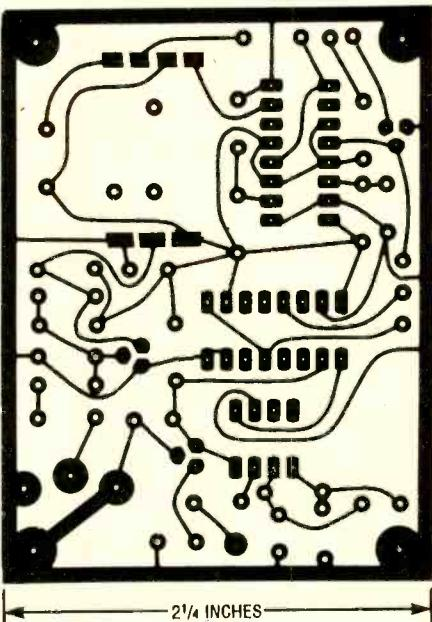

Fig. 2. The author's prototype of the counter was built on a small printed-circuit board, the template for which is shown here.
**Assembly.** The author's printed-circuit pattern for the Super-Simple Frequency Counter is shown in Fig. 2. As mentioned earlier, there are two versions of the counter module. The pattern in Fig. 2 is designed for the Sub Cub I module. For those etching their own printed-circuit boards,  $\frac{1}{16}$ -inch thick printed-circuit board material recommended. If you choose not to etch your own board, one may be purchased from the supplier listed in the Parts List.
Fig. 3. Here is a parts-placement diagram corresponding to the foil pattern shown in Fig. 2. Mounting the components to the board is straightforward, but be aware that LED1 and the counter module (which are indicated by the dashed lines) are mounted on the foil side of the board.